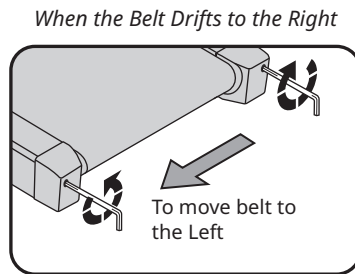

Figure 2
- D. If the belt drifts to the right, turn the left adjustment bolt one-quarter turn counter-clockwise and the right adjustment bolt one-quarter turn clockwise. (See Fig. 2)